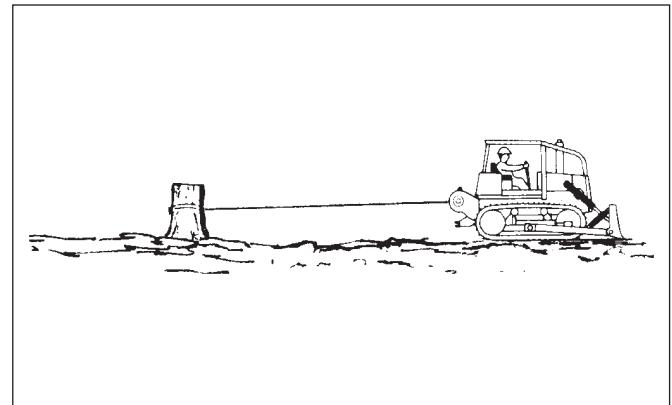

Figure 17 - Moving a Disabled Vehicle (Step A)
A. A tractor or skidder often travels in areas where traction conditions are bad. A vehicle equipped with a winch can be used to remove itself from mud or other areas where it cannot move using only the drive wheels or tracks. See Figure 17. Use the following procedure: